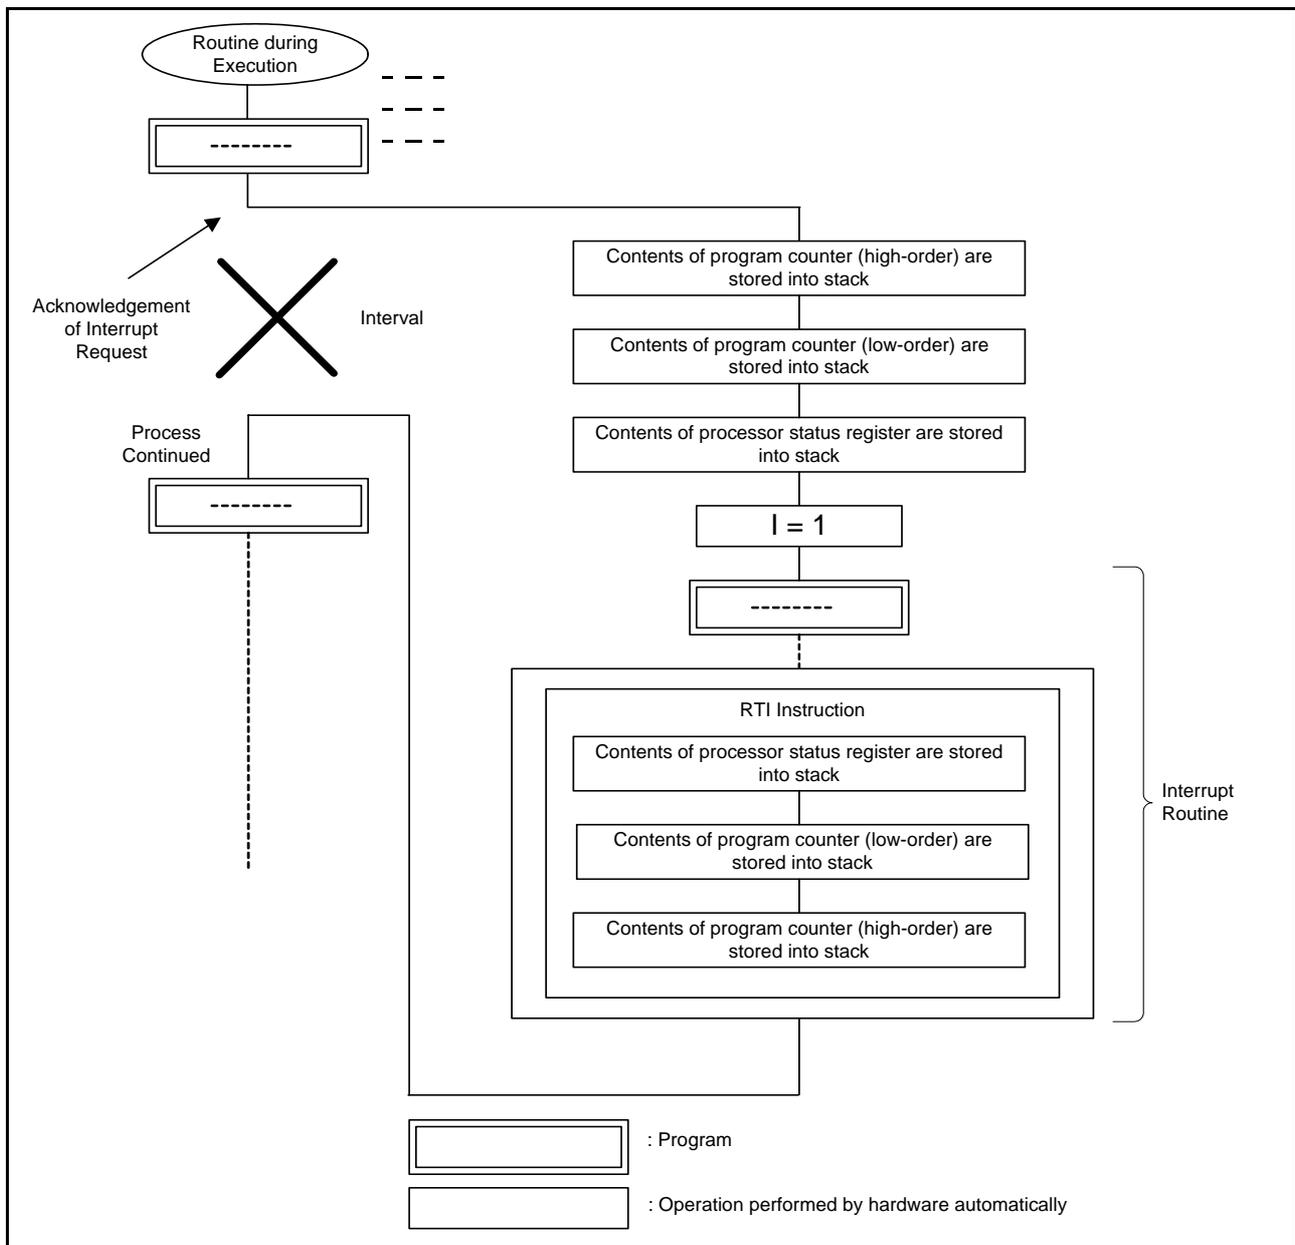

Figure 3.2 Interrupt Operation Diagram
- (1) High-order contents of program counter (PCH)
- (2) Low-order contents of program counter (PCL)
- (3) Contents of processor status register (PS)
After the contents of the above registers are stored into the stack area, the program will be branched to the jump destination address of the acknowledged interrupt. When the RTI instruction is executed, the contents of the above registers stored into the stack area are returned in the order of (3), (2) and (1) and the routine before the acknowledgement of the interrupt request is continued. Figure 3.2 shows the Interrupt Operation Diagram.